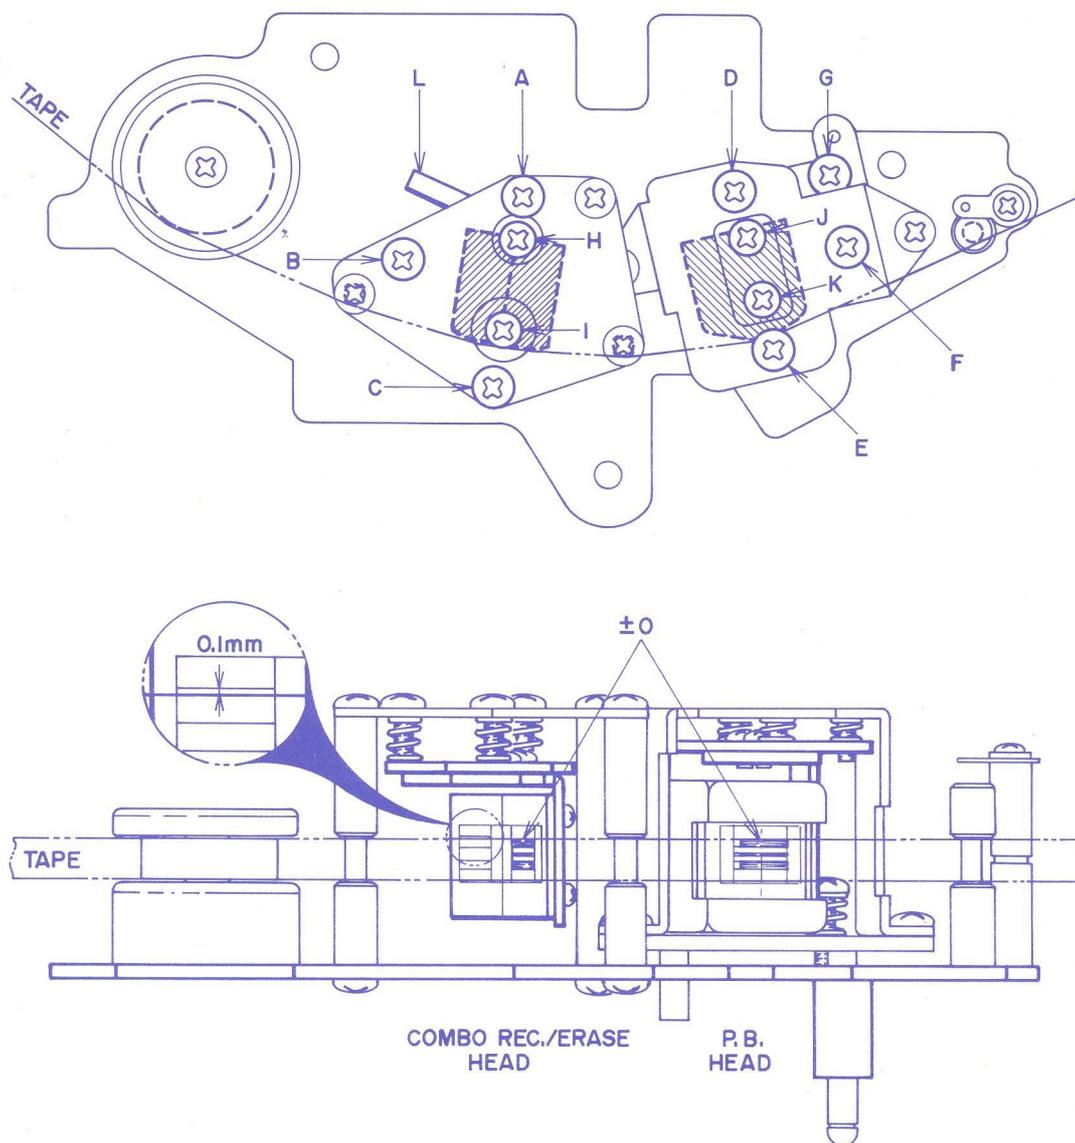

Fig. 18
At Playback mode adjust COMBO head height by turning screws (A) (B) and (C) shown in Fig. 18 to left and right until the upper edge of the tape is the same height as the upper edge of the left channel recording head core.
a) At Forward Playback mode, adjust playback head height by turning screws (D) (E) and (F) shown in Fig. 18 to left and right until the upper edge of the tape is the same height as the upper edge of the left channel playback head core.
b) At Reverse Playback mode, adjust playback head height by turning screw (G) shown in Fig. 18 to left and right until the lower edge of the tape is the same height as the lower edge of the right channel playback head core.
- d) At Forward Playback mode, turn Azimuth Alignment Screw (F) shown in Fig. 18 to obtain maximum line output level on both channels.
- e) After the adjustment in Item d) above has been completed, loosen screws (J) and (K) shown in Fig. 18 and move the head gap side of the playback head to left and right. When tension is applied to the supply reel side and
- d) At recording mode, turn Azimuth Alignment Adjustment Screw (B) shown in Fig. 18 to left and right until the line output level of both channels is maximum and does not fluctuate.
- e) After completing adjustment in Item d) above, adjust gap side of recording head by moving installation angle (L) shown in Fig. 18 to left and right until the line output level of both channels do not fluctuate (maximum allowable fluctuation within $+0.5/-0$ dB) when tension is applied to the supply reel side.